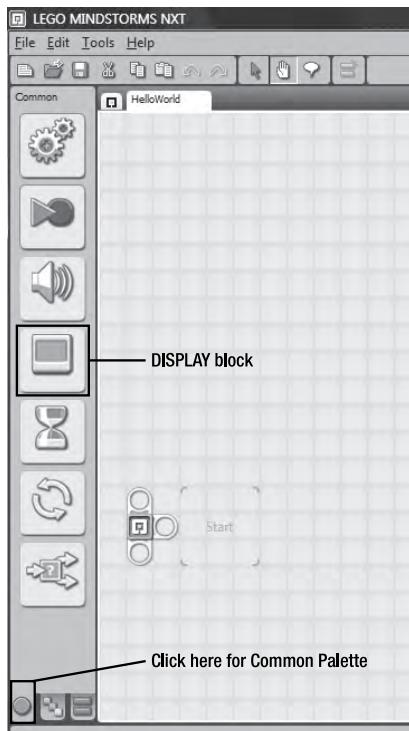

Figure 3-2. The *HelloWorld* program is open and ready for the *DISPLAY* block.
Figure 3-2 shows the new program opened (see the tab called *HelloWorld* in the upper left corner?) and ready for you to start dropping NXT-G blocks. The word “Start” appears on the work space beam, telling you where your first programming block will be placed.
■ **Note** If you don’t see the Common Palette along the left side of the screen, click on the green dot indicated in Figure 3-2.